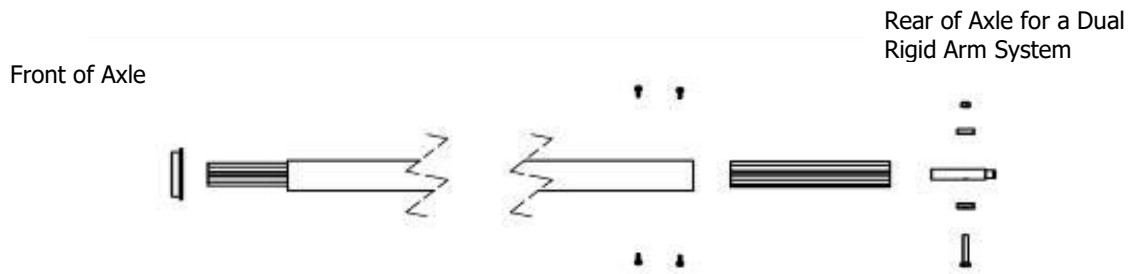

Figure 14
18. Slide the polymer bushing that was taped to the arm onto the motor adapter that is welded into the front of the axle. Refer to figure 14.
25. If the axle is too long it can be cut down at this point. With dual rigid arm systems you will have to measure how much is sticking past the rear arm, cut the axle off and re-install the adapter and stub shaft to connect to the rear arm. (Figure 14)